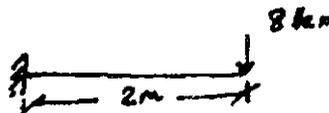

Fig. 1
3. For the beam shown in Fig.1, find the maximum B.M. and SF.